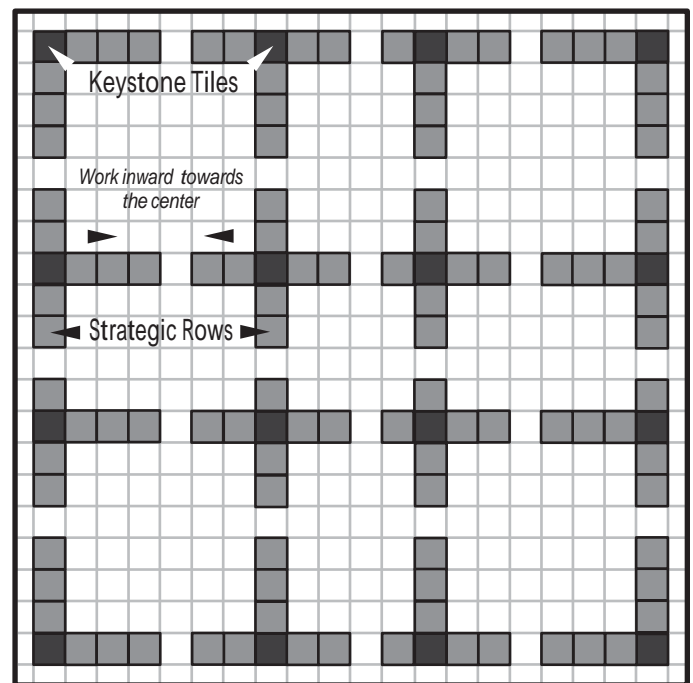

Fig. 5
- Install strategic rows of tiles beginning at opposite ends of the keystone tiles working inwards towards the center (**Fig. 5**).
Begin installing the tiles in the empty space located between the 6 tile increments. These tiles represent the compression tiles and will need to be compressed into a space smaller than the tile (Fig. 5).
INSTALL COMPRESSION TILES *Fig. 5*